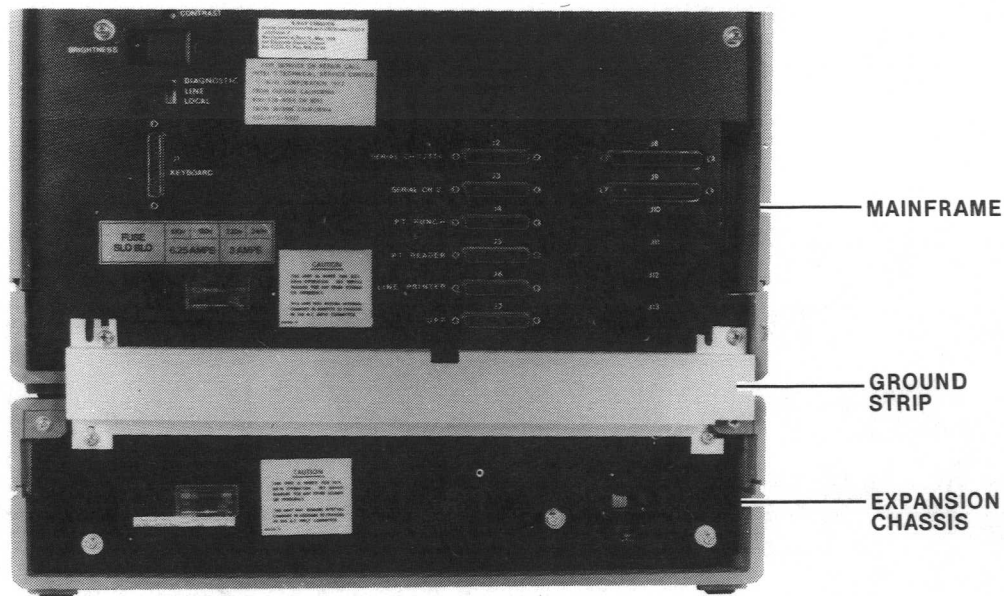

Figure 4-4. Expansion Chassis Ground Strip Installation
9. Attach aluminum ground strip between rear panels of mainframe and expansion chassis as shown in figure 4-4.